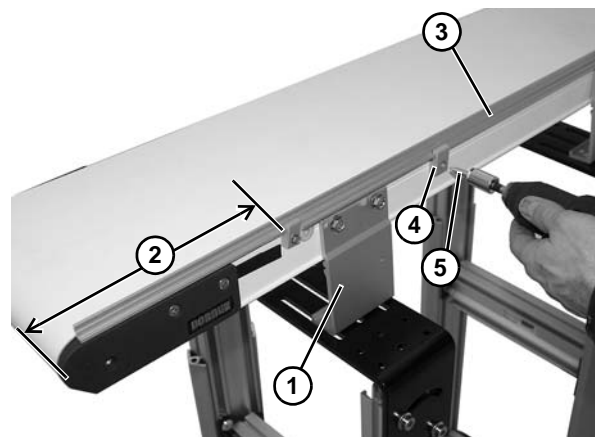

Figure 23
1. Lay out retaining clip (**Figure 23, item 1**) locations. The end clips should be no greater than 12" (**Figure 23, item 2**) from end of the conveyor.
2. Hold guide (**Figure 23, item 3**) and retaining clips (**Figure 23, item 4**) to conveyor side rail. Install self-drilling screws (**Figure 23, item 5**) following the "Proper Methods of Attachment to Side Rails" on page 9 procedure.